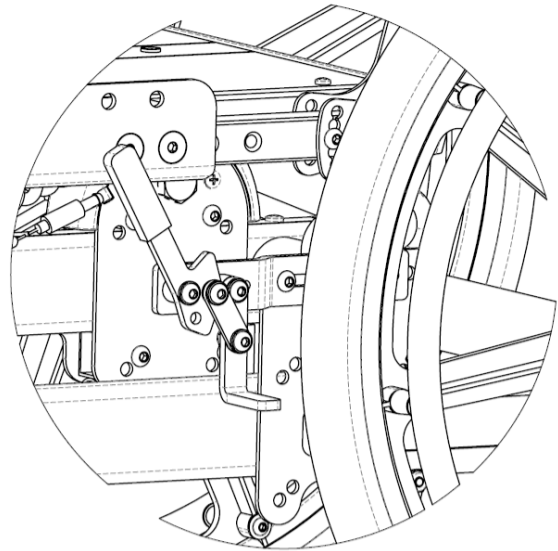

Figure 16.37: Pull to Lock Wheel Locks
2. To engage the pull to lock wheel lock (see Figure 16.37), pull the lever towards the wheel until it locks into place.